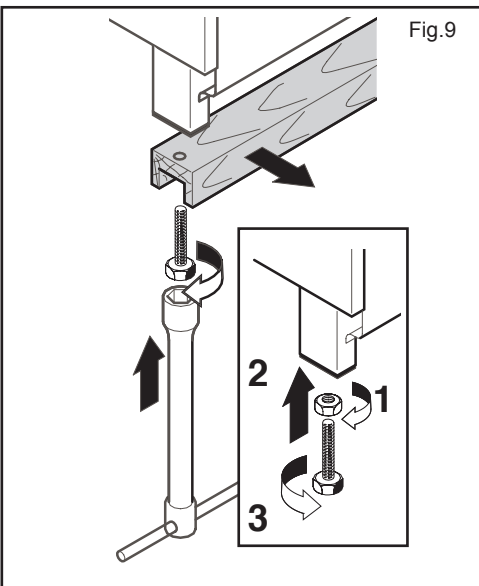

Fig.9
While the body (B) is lifted, use a box wrench to loosen the feet (fig. 9) and remove the wooden sleepers.